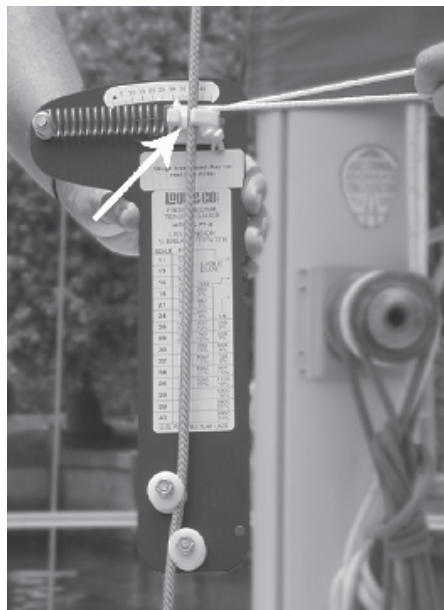

Fig. 2
2. With the right hand pull the lanyard and extend the spring until the hook on the nylon slider can be hooked on the cable as shown in Figure 2.